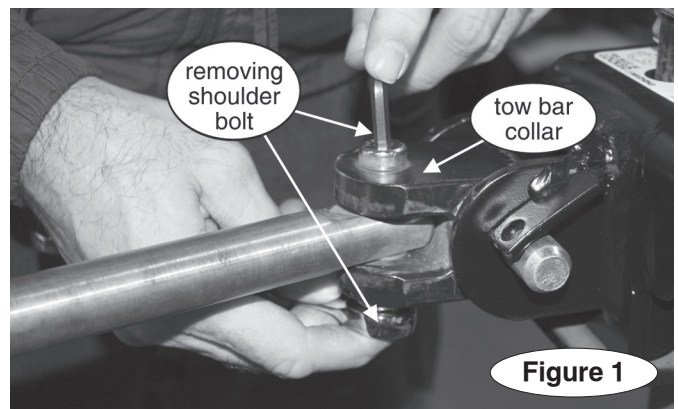

Figure 1
1. Remove the shoulder bolts from both tow bar collars (Figure 1), paying particular attention to the sequence of washers and/or spacers in the collars – you will reinsert the washers and/or spacers in the next step.